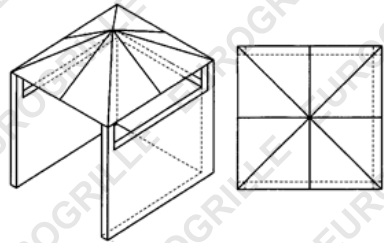

Figure 4: Open side at least 25% of total wall area. 30 % or more in total of the remaining wall area is open and unrestricted.
- At least 30% of the remaining wall area is open and unrestricted. See Figures 4 & 5.